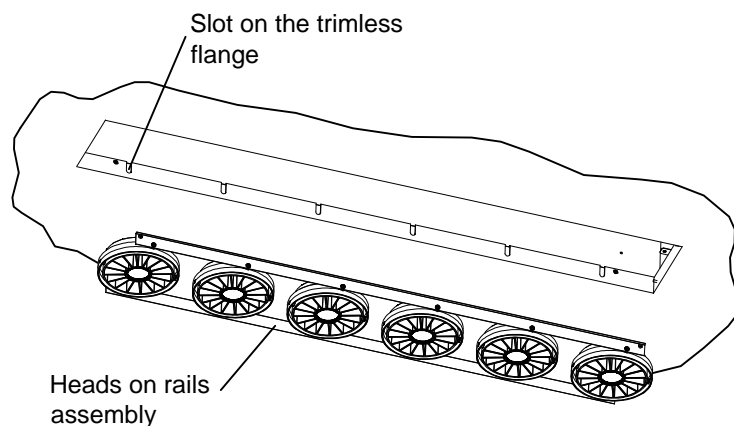
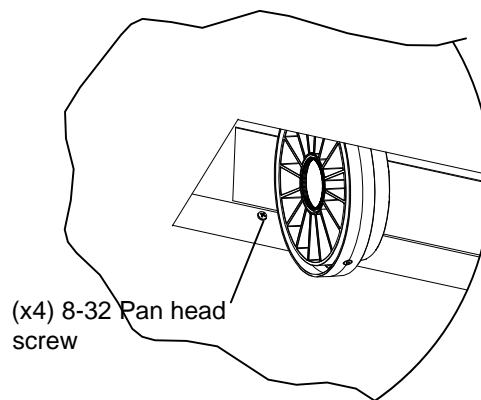

Fig. 6
Fig. 9
9. Raise the heads on rails assembly into to the recessed housing and push the gimbal bosses into the slots (Fig. 6 and 7). Secure the heads on rails assembly with 4x #8-32 pan head screws (one at each corner) (Fig. 9).